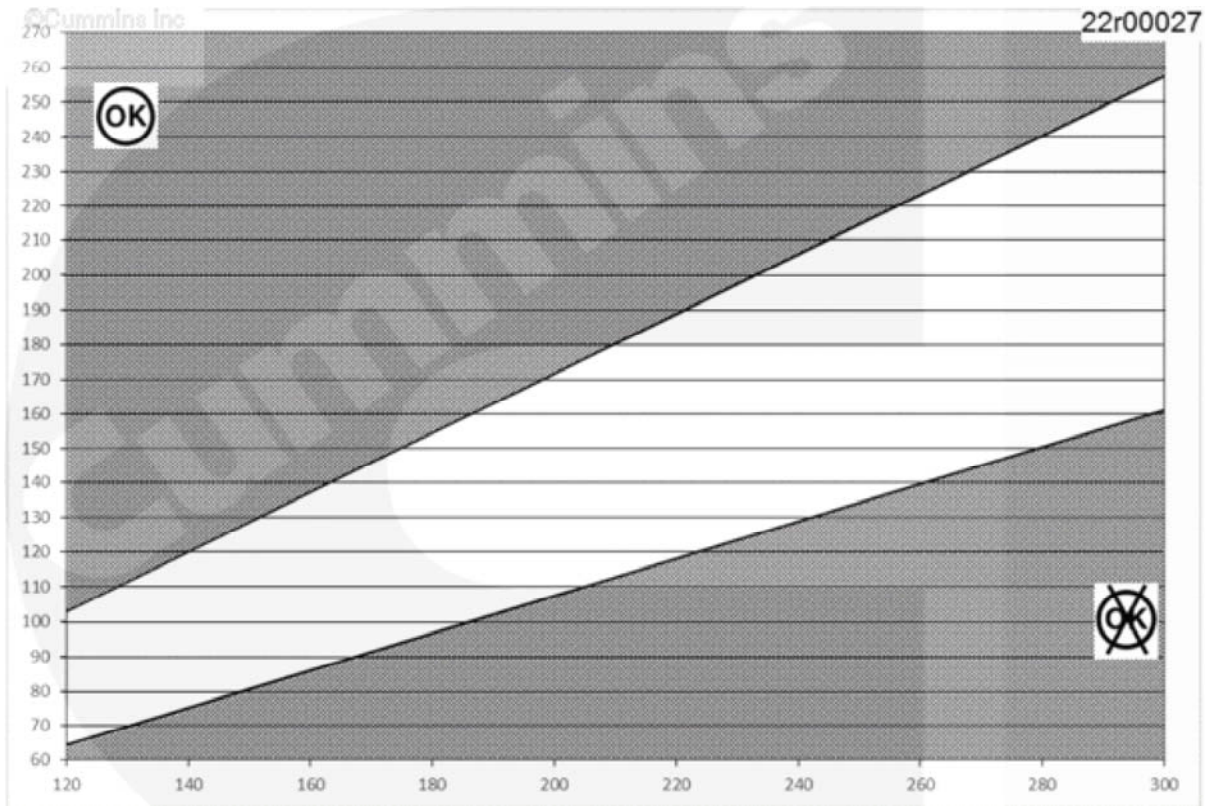
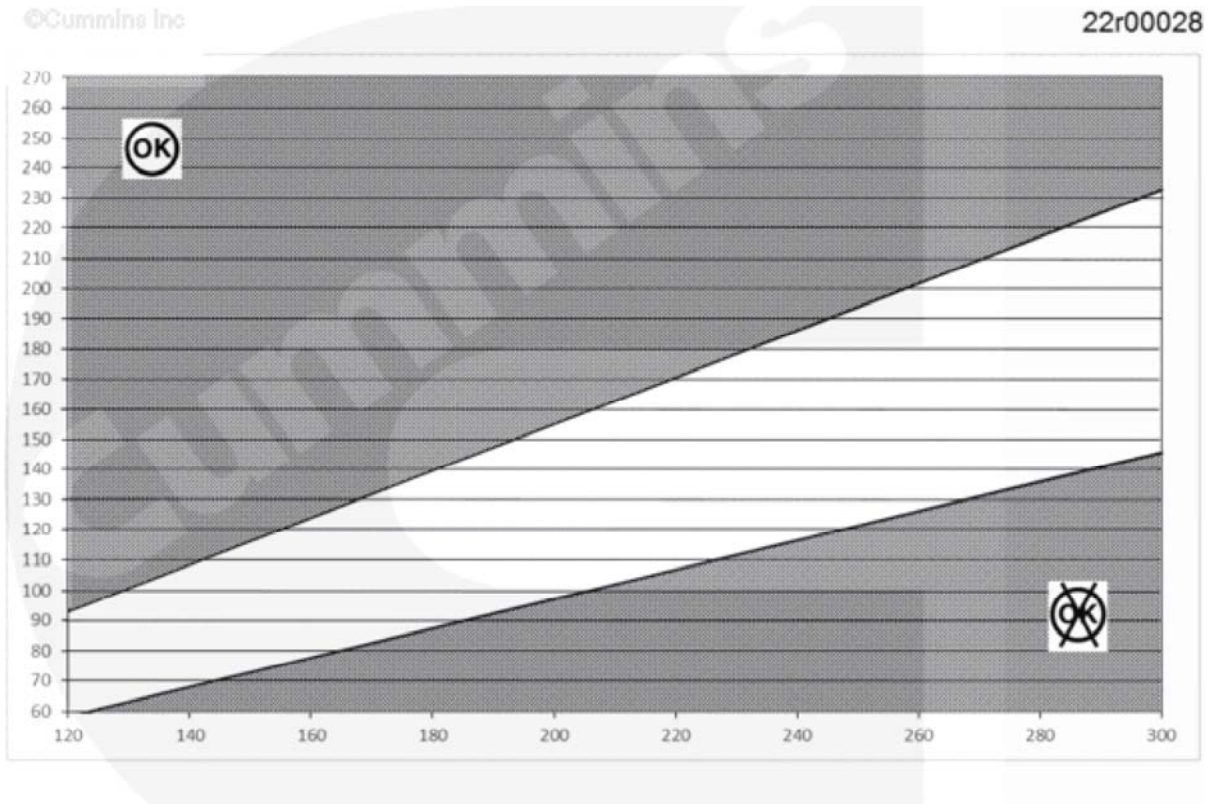
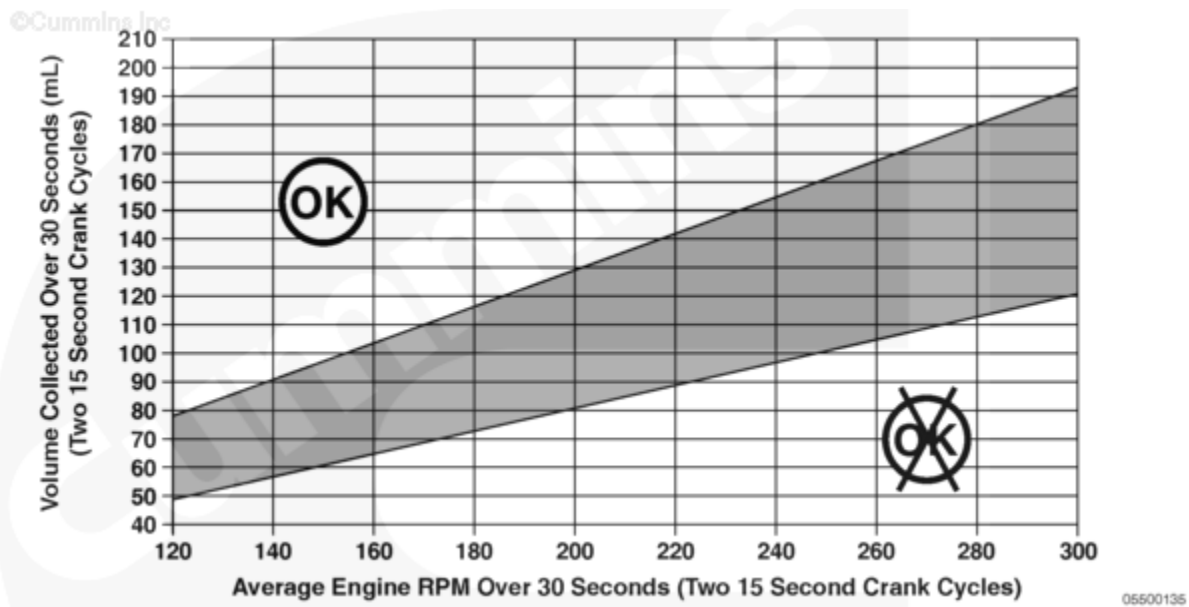

Figure 5, Engine Speed [ rpm ] Versus Service Tool Fuel Volume [ ml ] for All ISX/QSX CM2250 Engines.
Figure 6, Engine Speed [ rpm ] Versus Service Tool Fuel Volume [ ml ] for All ISX/QSX CM2350 Engines.
Figure 7, Engine Speed [ rpm ] Versus Service Tool Fuel Volume [ ml ] for All ISL/QL CM2350 Engines.
- See graphs, Figure 5, 6 and Figure 7 below, to determine the minimum fuel volume from the high- pressure fuel pump service tool.
- For all ISX/QSX CM2250 and CM2350 engines, see Figure 5 and Figure 6 below.
- For all ISL/QSL CM2350 engines, see Figure 7 below.
For Figures 5 and 6 below:
2016-5-5	Updated Step 5 and 6 and Figure 4 and 5 axis explanations. Added Figure 7.